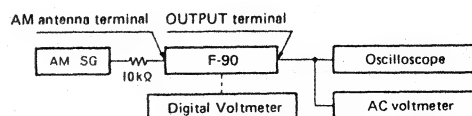

Fig. 11-1 AM Adjustment Connection Diagram
- Connect up as shown in Fig. 11-1.